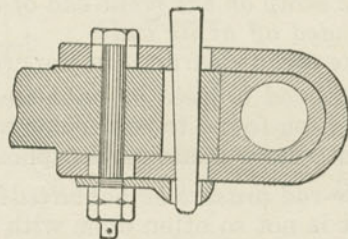

Fig. 210. Strap Joint.
*Q. How is an engine to be keyed up, when the front end rod-straps are as shown in Fig. 210?*